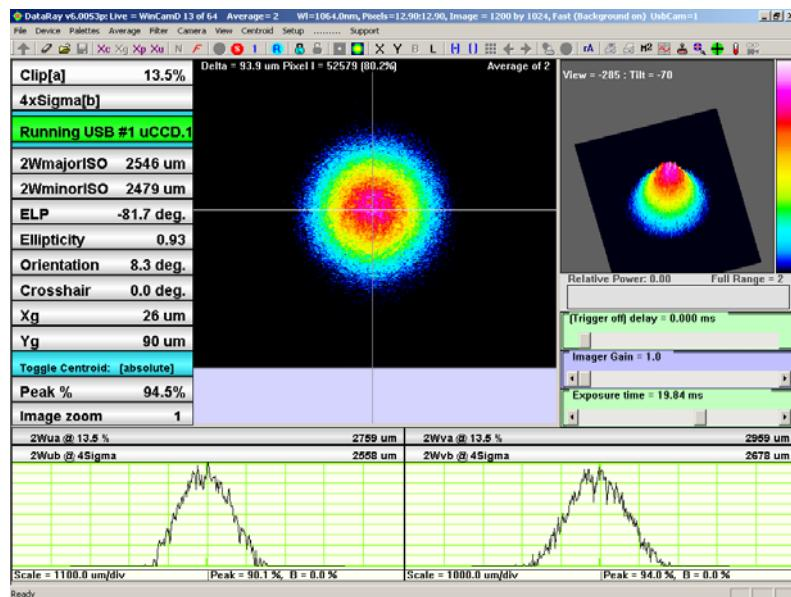

Figure 6.42 Setting up the laser beam (2)
13. The projection of the laser beam should be in the center of the monitor screen (see figure 6.42).